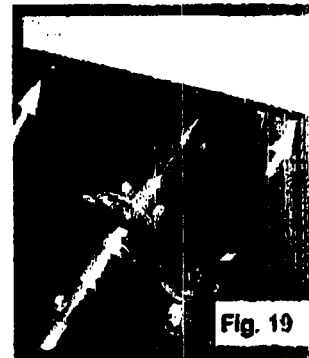

Fig. 19
16. If the lower rear assembly has been moved, re-check the drive shaft alignment and re-align the drive shaft and brake assembly, if necessary. Clamp the brake assembly to the rear cross-member and install the two $\frac{1}{4}$ " x 1" tek screws into the top holes of the brake assembly bracket. (Fig. 19) (Tek screws included in fastener package.)